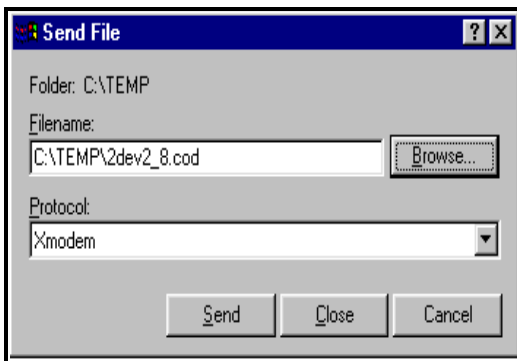

Figure 71: Transfer Menu Send File Window
2. Return to the PC Hyperterminal program. In the Hyperterminal window, pull down the *Transfer* menu and click *Send File*. A window opens similar to Figure 71.